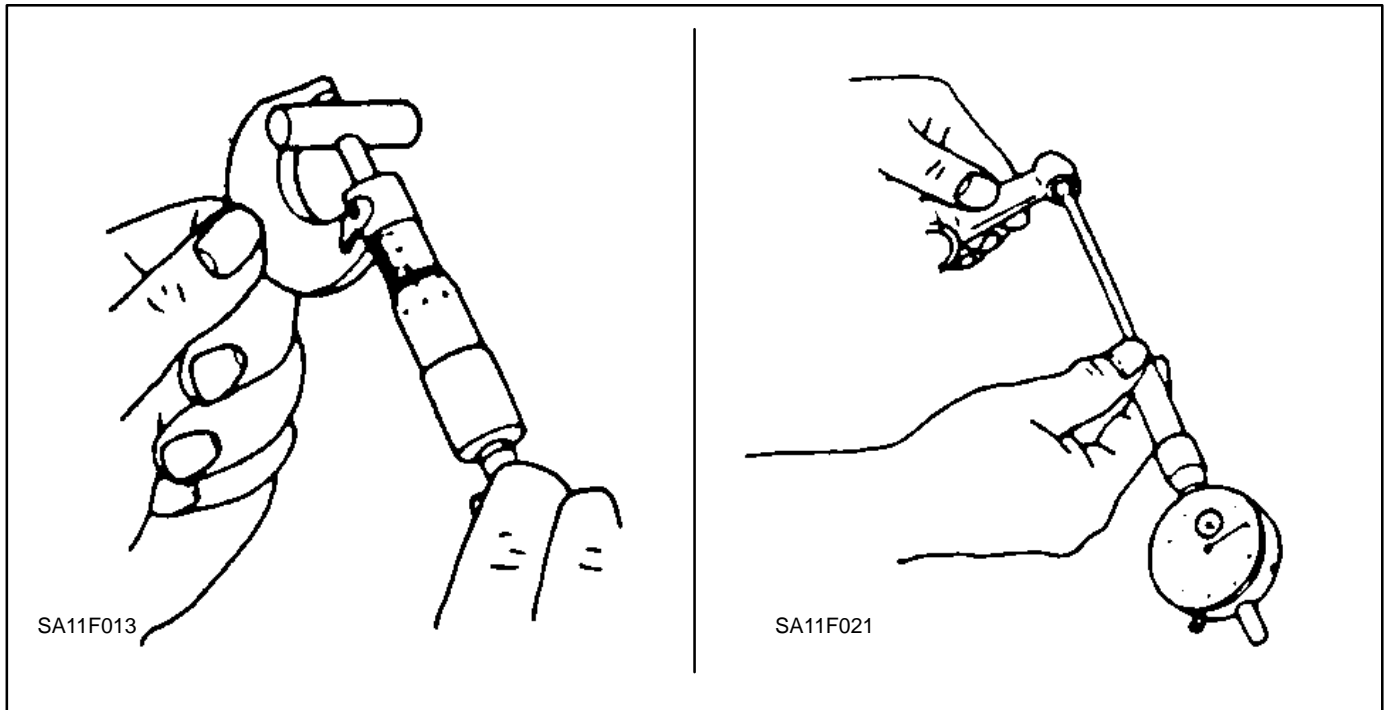

FIGURE 9-21. PISTON PIN AND CONNECTING ROD CLEARANCE
1. Measure the piston pin O.D. and connecting rod small end bore with a micrometer (Figure 9-21). Then calculate the difference.